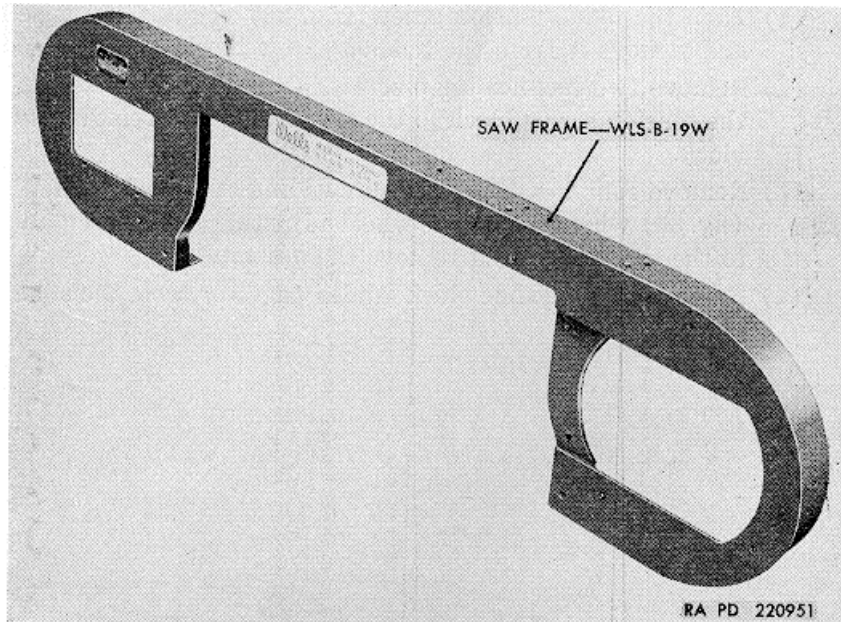

Figure 38. Saw frame.
- (6) Remove two hex-head cap screws and two lockwashers (fig. 36) which secure the handle to the saw frame (fig. 38) and remove handle from saw frame.
- (3) Place the wheel adjusting block assembly (fig. 36) over the opening in the left side of the saw frame (fig. 38), position the slide block guides, aligning the holes in the guides and saw frame, and install the four 5/16-inch lockwashers and the four 5/16 x 5/8 hex-head cap screws (fig. 36).